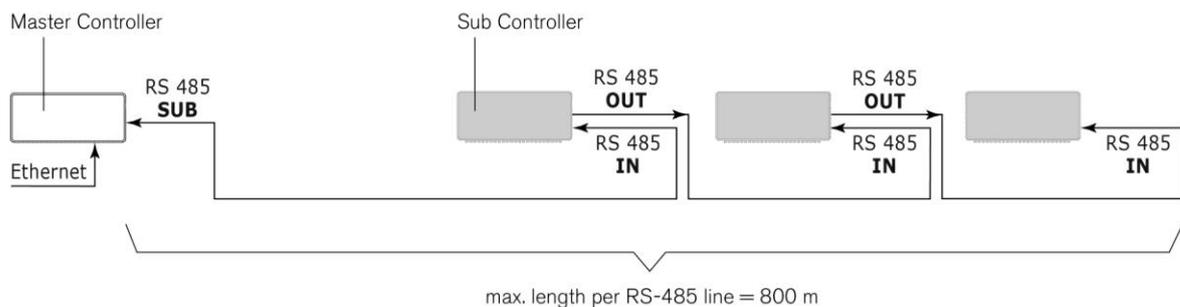

Figure 4.6 – Series connection of the GAT NET.Controller S 7020
- Pay attention to the direction of supply as power is only forwarded via the "RS 485 OUT" socket (see Figure 4.6). Max. length per RS-485 line: 800 m (2624 ft).